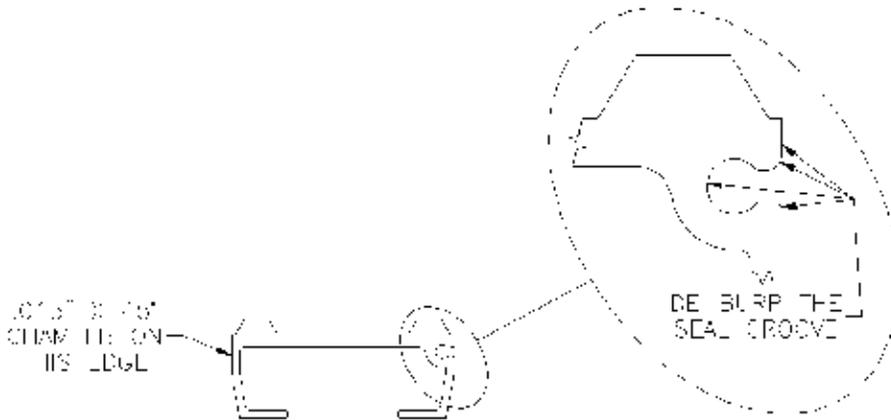

Figure 30
5. Install seals (Figures 30 to 42).
B. Inspect the ends of the floor slats. De-burr the seal groove. Chamfer the outside edge of the floor slat opposite the seal groove. De-burr and chamfer both ends of the floor slats (Figure 30).